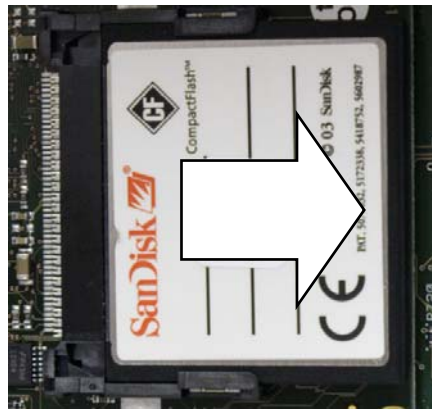
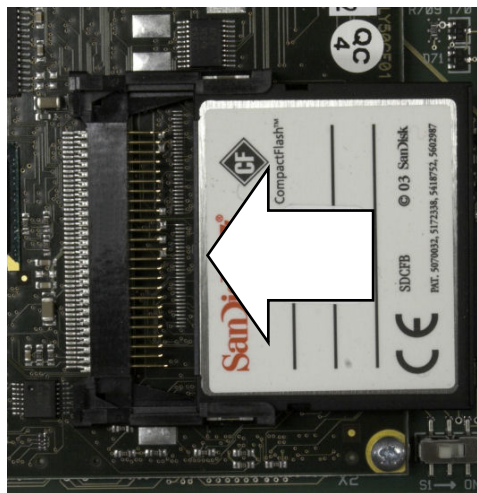

Figure 3-47: CF Card Removal
Figure 3-48: CF Card Installation
5. Install screws to secure the board to the main PCB. Two of these screws also attach the lower card guide. This bar is asymmetrical, and must be mounted in the orientation indicated in Figure 3-47. Note that the longer end is oriented toward the main PCB battery.
To remove a CF card from the ETX board, hold the sides of the CF card and carefully slide it out of its socket, in the direction indicated in Figure 3-47. It may be necessary to move the card slightly side to side to disengage it.
Note that Figure 3-47 and Figure 3-48 show the CF card in the same orientation as in Figure 3-39.
To install a CF card in the ETX board, slide the CF card into its socket, in the direction indicated in Figure 3-48. Keep the card straight, to avoid damaging the socket's pins. The card will snap into place. There are two guides on the CF Card. One is thinner than the other. Do not force the CF Card into the carrier.